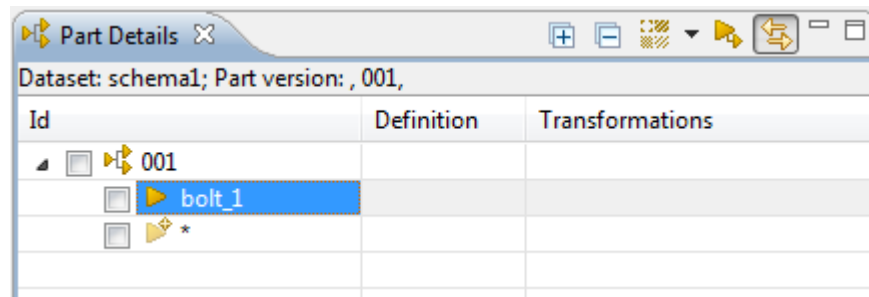

Figure 4. Created new component
- Enter an identifier of a new component into **Id** column (see Figure 4) and press **Enter** key.